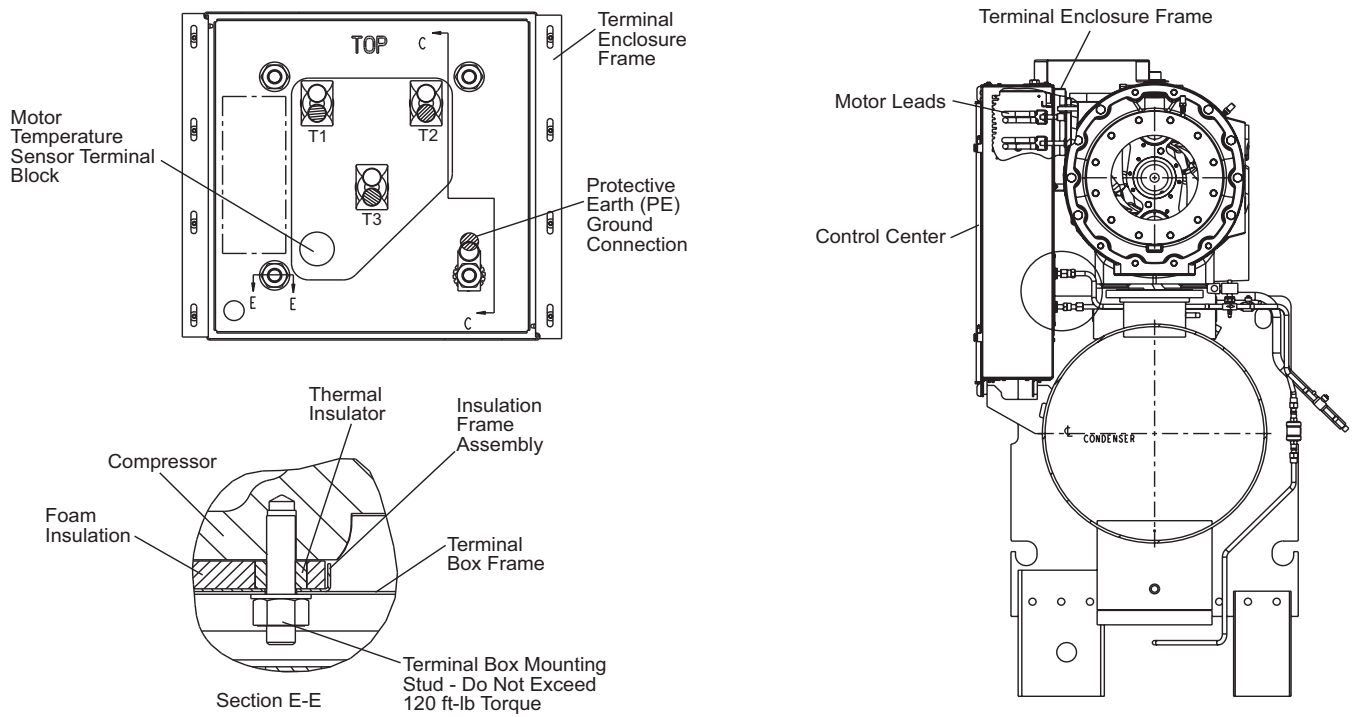

Fig. 34 — Motor Terminal Box (Q and R Compressors)
1. Install terminal box frame mounting studs into tapped holes using short threaded end (see section E-E in Fig. 34 and 35). Do not exceed 120 ft-lb (163 N-m).